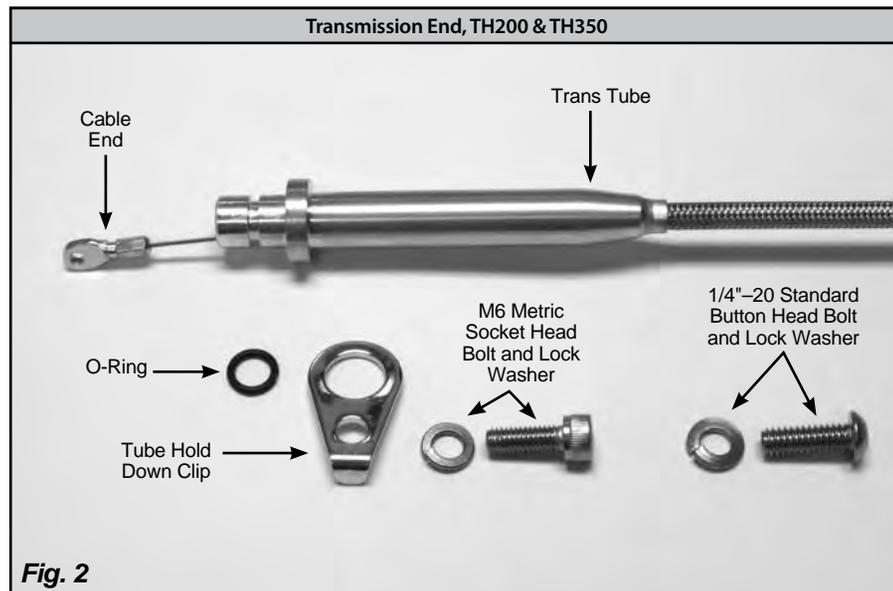

Fig. 2
**Note:** TH200 and TH350 transmissions could have come with either a standard or a metric bolt for the trans tube hold down clip. For those applications, we have included both a standard 1/4"-20 and a metric M6 bolt and lock washer for the trans tube hold down clip. The standard 1/4" - 20 bolt has a rounded button head, and the metric M6 bolt has a square-shouldered socket head. **Fig. 2** The TH200-4R, 700-R4, and 4L60 will only have a metric bolt and washer in the kit.